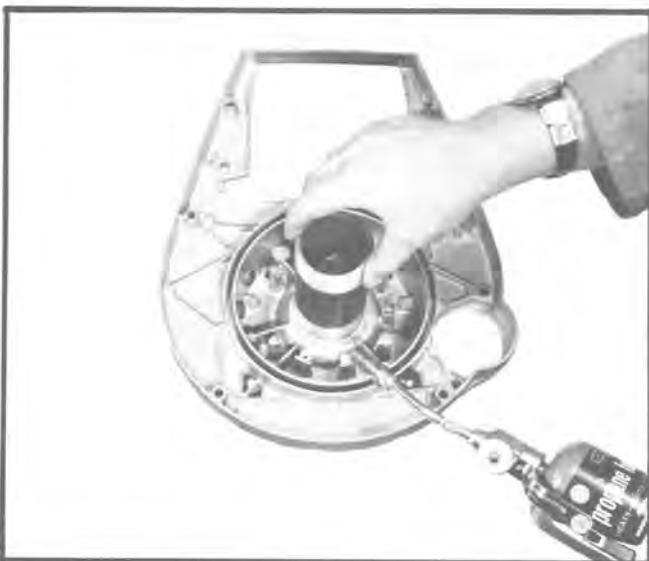

Fig. 25 — Heating Bearing Area of Housing for Removal or Installation of Crankshaft (L 297 Engine Shown)
- i. Position the crankcase housing between two blocks of wood (allowing enough room so that the weight of the crankshaft and pulley side of the crankcase will allow crankshaft bearing to be pulled free of flywheel side of crankcase). Place a 2" OD piece of pipe over the crankshaft so as to protect the seal, then using a torch to heat the bearing area of the housing as shown in Fig. 25, separate crankcase.